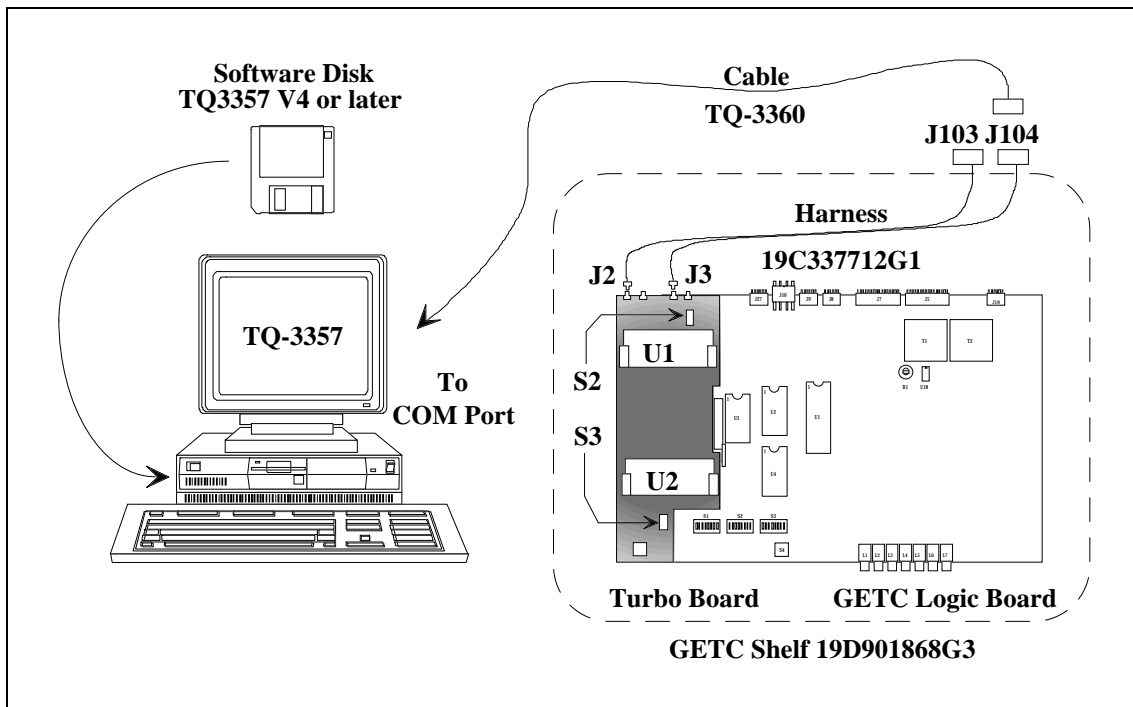

Figure 9 - System Hook-Up Using J104
- Connect one end of the serial programming cable (TQ-3360) to the computer. Connect the other end of the cable to the GETC Shelf connector J104. See Figure 9.
- Move Switch S2 on the Turbo Board to the front placing the GETC into the Personality Programming mode. See Figure 9.